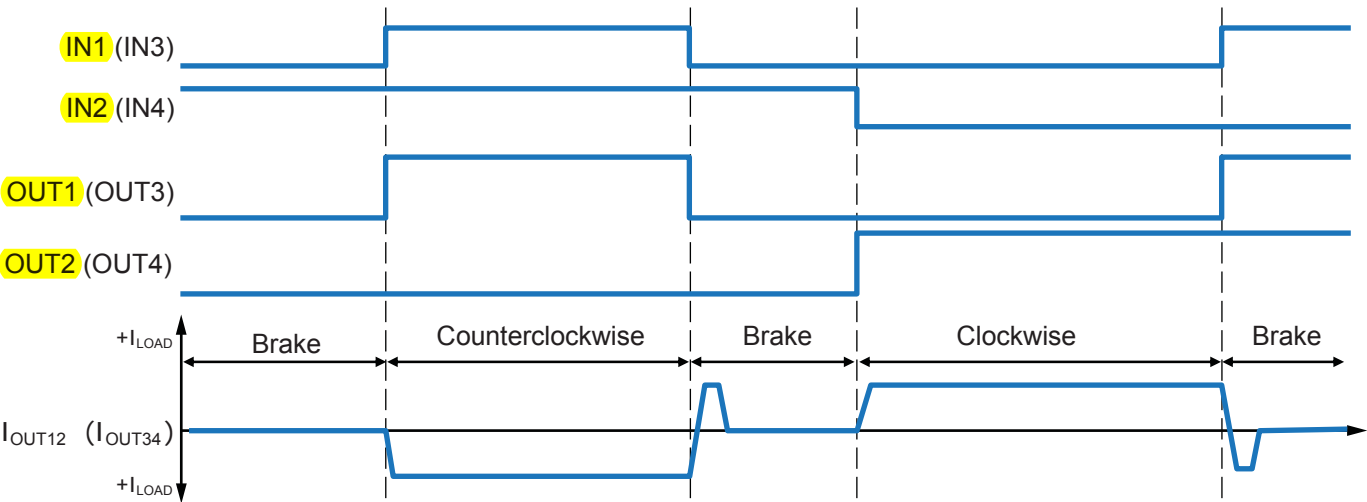

Figure 2. Brush DC Motor Input and Output Sequence Timing Diagram (phase B names shown in parentheses)
- **Brush DC Motor** – A brush DC motor can be driven by each full-bridge, in both directions as shown in figure 2. In addition to controlling rotation direction, the two control inputs for each bridge can be used to provide PWM speed control and motor braking.